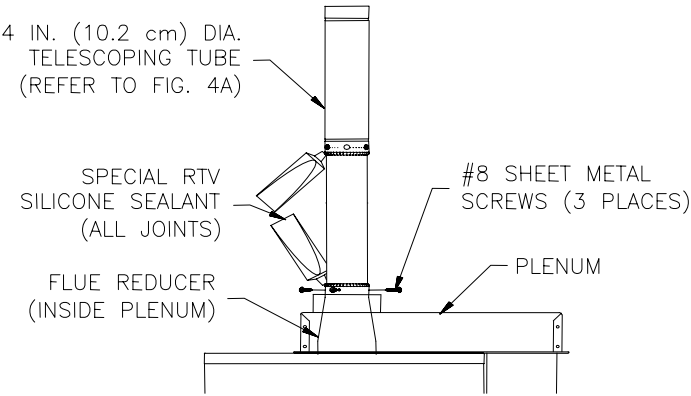

Figure 5a
4. Place the large end of the four (4) inch (10.2 cm) diameter telescopic tube(s) through the hole in the ceiling (if applicable). Insert the small end of the four (4) inch (10.2 cm) diameter telescopic tube(s) into the flue reducer until seated. With a 1/8 inch (3.2 mm) diameter drill bit (not supplied), drill three (3) holes, 120° apart, through the flue reducer into the four (4) inch (10.2 cm) diameter telescopic tube(s). Fasten with three (3) #8 sheet metal screws (supplied). Using the supplied RTV silicone sealant, apply a sufficient amount to seal all joints. (See Figure 5a or 5b).